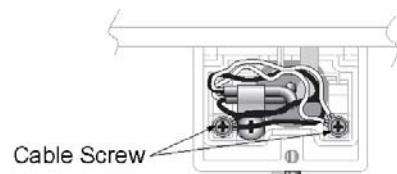

Fig.4
11. Loosen 2 cable screws on the terminals for controls and connect the cable. You cannot connect more than 2 cables at a time. When connecting more than 2 cables, connect them in parallel. (Fig. 4)